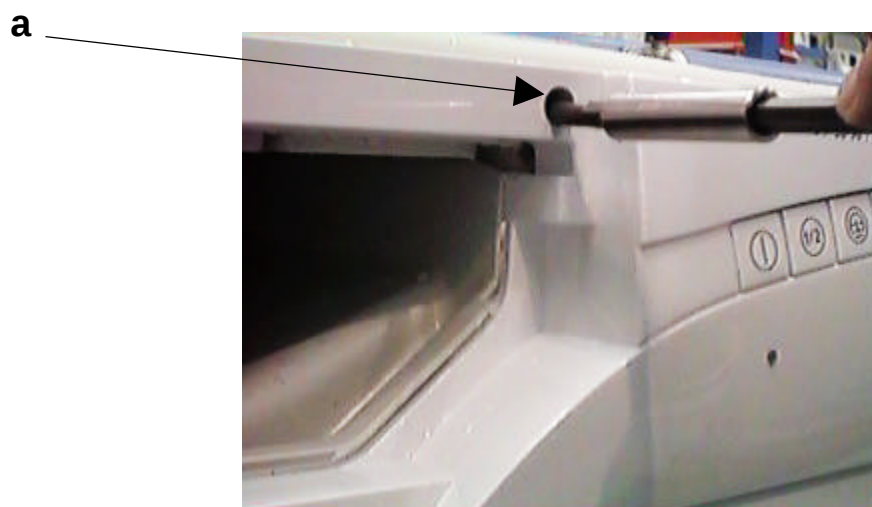

Figure : 11
- Panel is released from the snaps on the panel holder(figure 11)
- Panel is removed (figure 11)